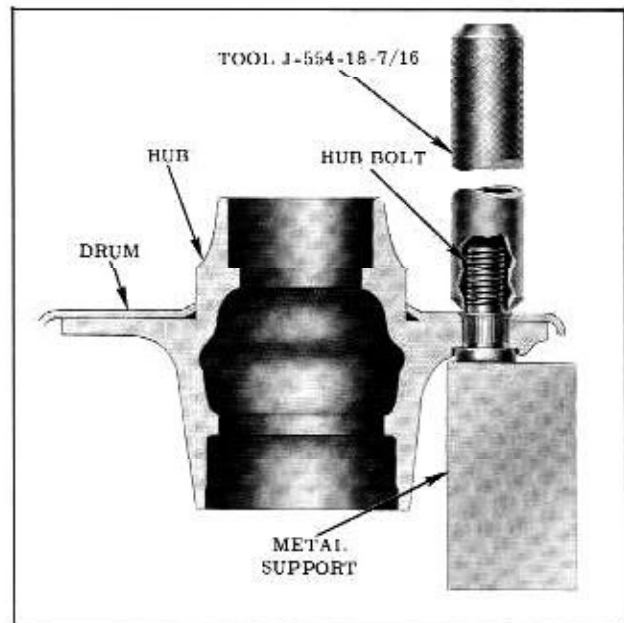

Figure 7-13 Peening Hub Bolt
4. While supporting hub bolt,peen hub bolt into the countersunk area of drum with the use of Peening Tool J-554-3-7/16" until the drum is secure to the hub. (Fig. 7-13)